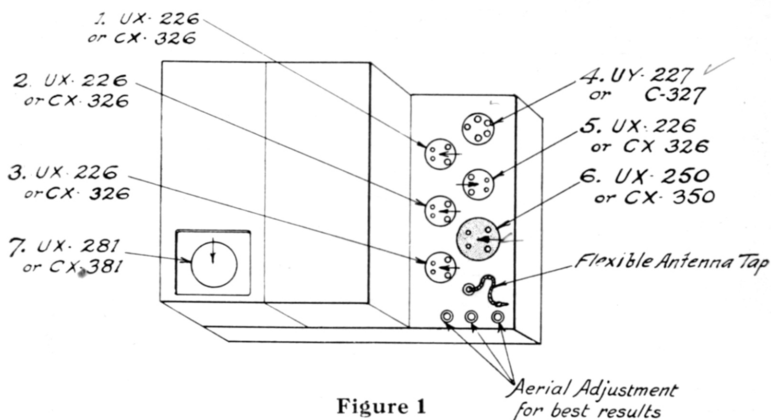

Figure 1
*Adjustment of Antenna Tap.* See Figure 1 for position of antenna tap, located on rear of the tube shelf. Three jacks will be observed, any one of which may receive the plug attached to end of flexible wire. The plug should be placed in the position which gives the best results.
Examine the rectifying tube (No. 7, Fig. 1). If this tube is not lighted, or glows with a pronounced blue color, replace with a new tube.
*Microphoning.* Microphonic noises—which may be better termed moaning sounds—usually result from defective tubes, in which the elements have not been securely anchored or have become displaced. Such defective tubes may be located by placing the hand on each tube. If the vibration or moan stops, replace the tube causing the trouble. It is suggested that the detector tube (No. 4, Fig. 1) be checked first, as this tube is most subject to moaning.
- (a) Detector tube (No. 4, Fig. 1) may be defective. Replace with a new tube.
*Poor Tone Quality.* Inspect all tubes. Have them tested. One or more of the tubes in positions 4, 5, 6 and 7, Figure 1, may be defective and cause poor tone quality.